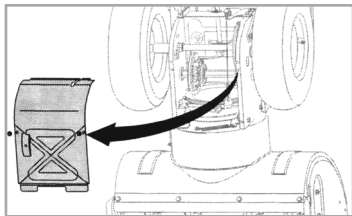

Fig.28
2. Carefully pivot the snow thrower up and forward so that it rests on the auger housing. Remove the frame cover from the underside of the snow thrower by removing four self-tapping screws which secure it. See Figure 28